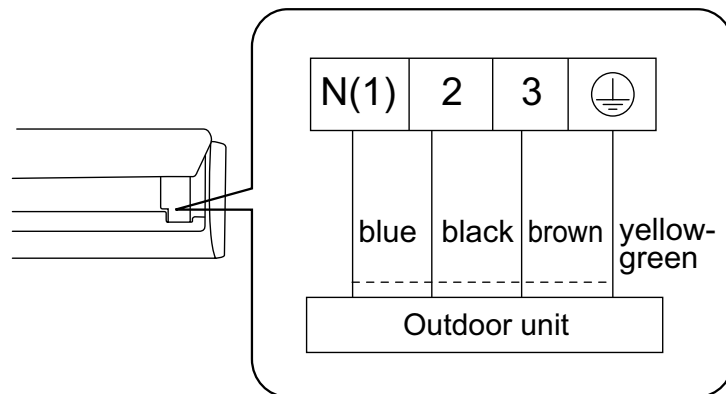

Fig. 13
- (3) Remove the wire clip; connect the power connection wire and the signal control wire (only for cooling and heating units) to the wiring terminal according to the color; tighten the screw, and then fix the power connection wire with the wire clip. (As shown in Fig. 13)